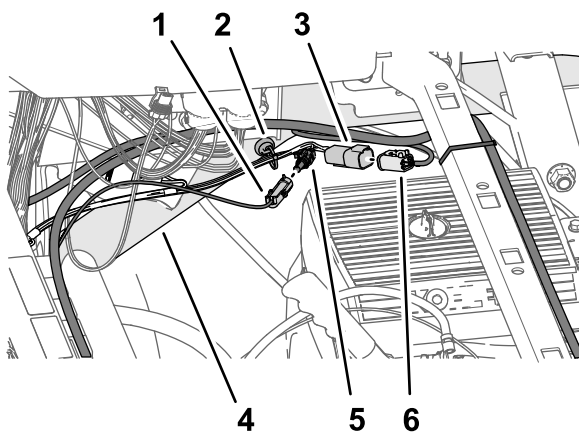

Figure 202
3. Connect the 1 pin connector of the battery harness labeled ***IMPORTANT*** ONLY CONNECT THIS WIRE TO SWITCHED 12V POWER SOURCE into the 1-socket connector of the 66 cm (26 inch) kit wire-harness branch (Figure 202) labeled (SW'D PWR FOR GEN 2 TOPCON).
4. Connect the 4-pin connector of the 66 cm (26 inch) kit wire-harness branch labeled ASC 10 PWR & CAN FROM X30 into the 4-socket connector of the data-harness branch labeled CAN 2/ASC10 BUS (Figure 202).